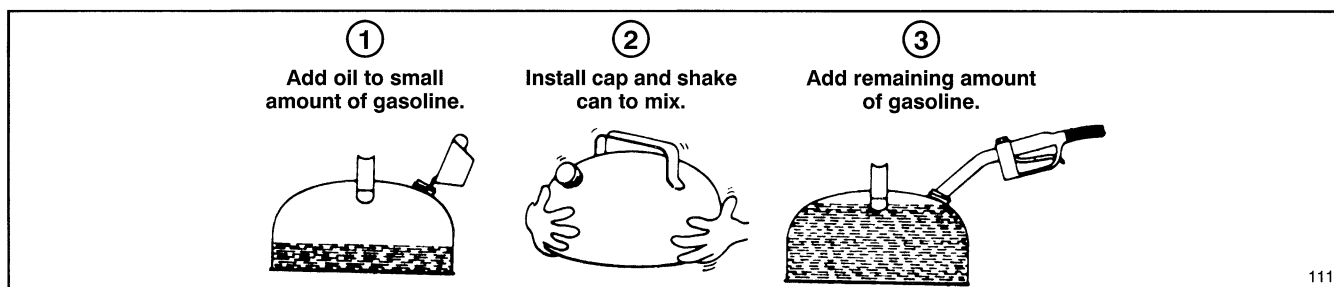

Figure 8
2. Mixing Gasoline and Oil (Fig. 8)—Pour correct amount of two-cycle oil into an approved gasoline container and add a half gallon of gasoline. Install cap on gasoline container and shake the container to mix oil and gas thoroughly. Remove cap and add remaining amount of gasoline.